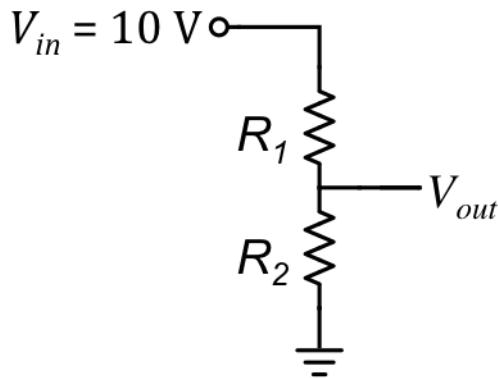

Figure 2 - Voltage divider circuit.
In this portion of the lab, you will construct the circuit shown in Figure 2 using a solderless breadboard. You will then measure V_{out} as a function of the resistance R_2 . Copy the circuit diagram and table into your lab notebook.
2. Sketch the circuit shown in Figure 2 in your lab notebook, and write down the voltage divider equation, Eq. (1), in your lab notebook.
6. Insert this resistor into breadboard as R_2 to form the circuit shown in Figure 2. Use the breadboard's built-in power supply to provide $V_{in} = 10\text{ V}$ to the circuit. Make sure the other end of the circuit is properly connected to ground.